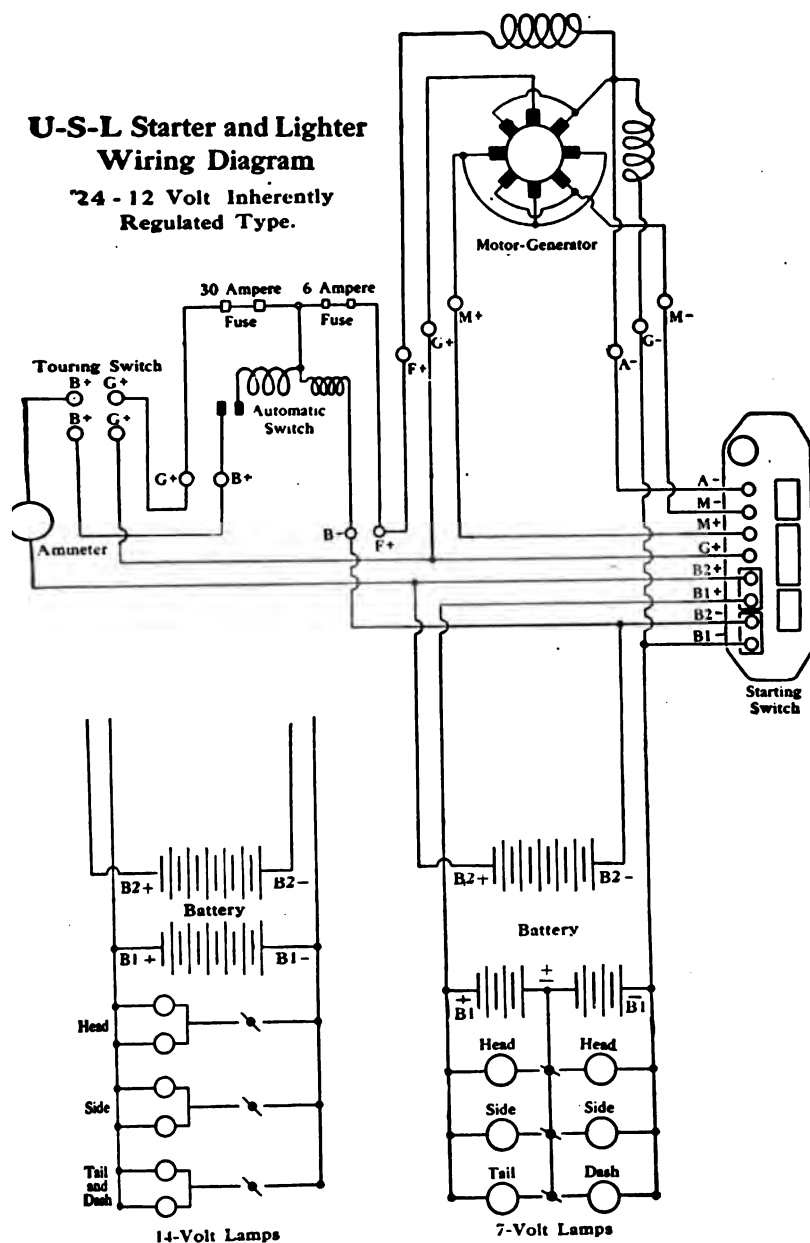

Fig. 335. Wiring Diagram for 24—12-Volt Inherently Regulated Type, U.S.L. System
**Starting Switch.** The starting switch is filled with oil, and this should be renewed once a year. To do this, the switch must be disconnected, and the screws *A*, Fig. 336, removed; in case the box sticks, insert a screwdriver point between the top of the box and the bottom of the frame and pry loose. To guard against the switch dropping when these screws are removed, hold the hand beneath it while taking them out. Before attempting to remove the switch, disconnect the positive battery connections *B1+* and *B2+* at the battery as shown in Fig. 335. These are the two main terminals in the center. It is unnecessary to tape them, as a short-circuit cannot occur. Pour out the old oil, clean out thoroughly with gasoline, allow to dry, and refill with transformer oil or light motor oil to the proper level with the switch box standing plumb. The proper height on the Type E-2 or E-3 box is  $1\frac{1}{2}$  inches, on E-4 box  $2\frac{1}{4}$  inches. Before